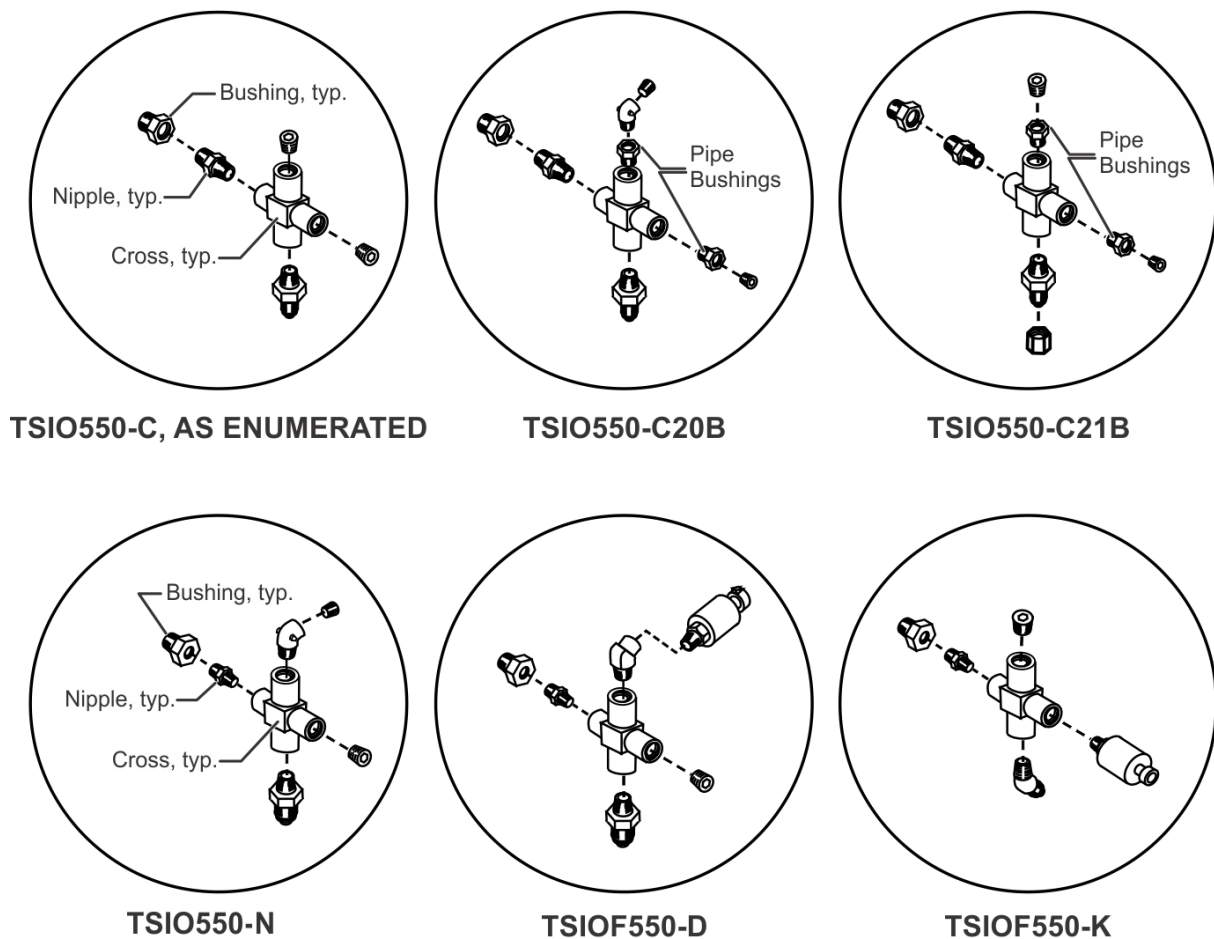
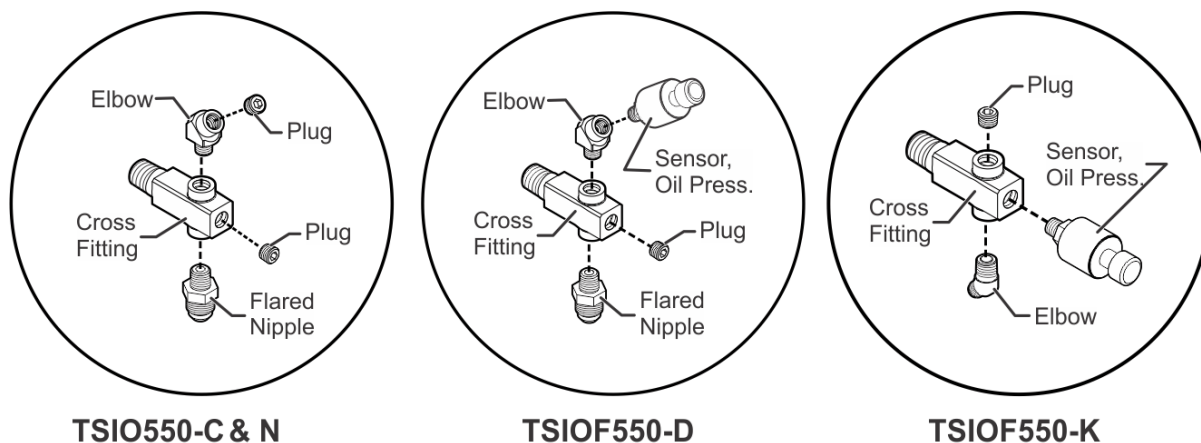

Figure 1. Cross Fitting Stack-Up, Prior Configurations
Figure 2. Cross Fitting, NEW Configurations
1. Eliminate the pipe bushing and nipple fitting stack-up (see Figure 1) typically found between the cross fitting and the oil cooler and replaces them with a single cross fitting (P/N 658607).
3. Add a new requirement for engine models TSIO550-C and -N to use the AN915-1J 45-degree elbow fitting to install the oil pressure sensor (similar orientation as TSIOF550-D, see Figure 2).
4. Remove the additional pipe bushings (P/N AS4861J01) used for the oil pressure sensor and pipe plug previously installed on TSIO550-C20B and -C21B installations (see Figure 1). These bushings are obsolete (for this application) and will no longer be necessary for the new cross fitting installation; the AN915-1J 45-degree elbow fitting or pipe plugs fit directly into the new cross fitting (see Figure 2).